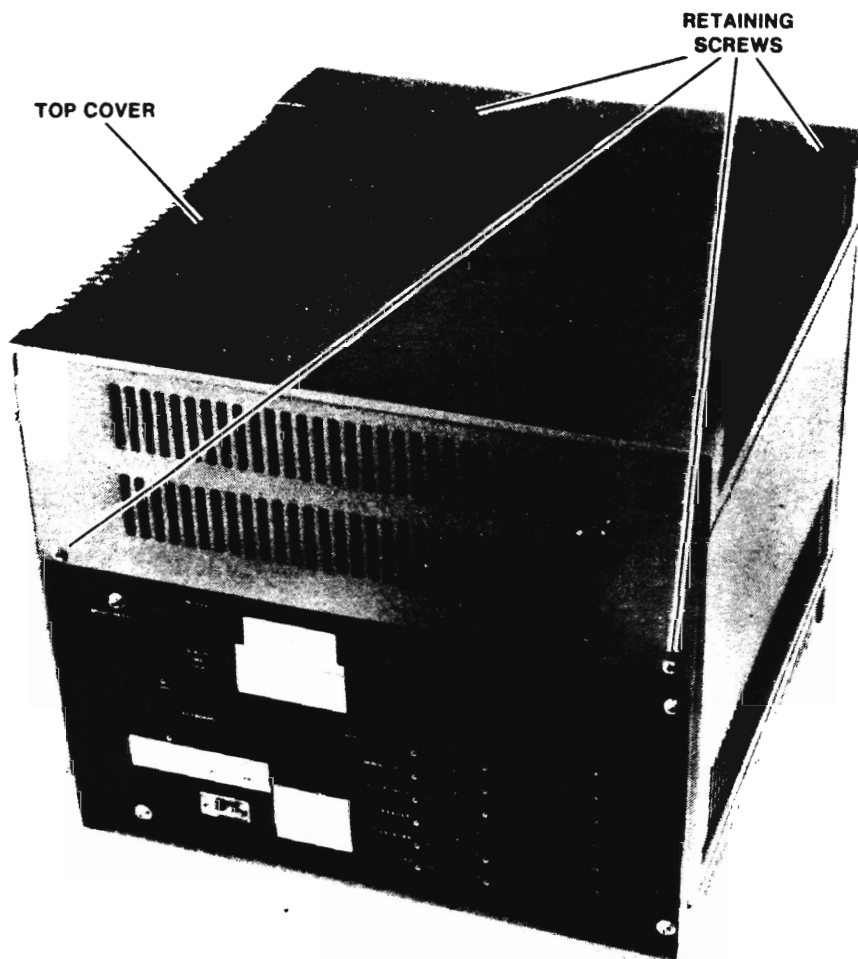

Figure 2-4. Series II/III Mainframe Top Cover Removal
- d. Loosen top cover of mainframe by removing the two screws on the rear cover and two screws on top (see Figure 2-4).